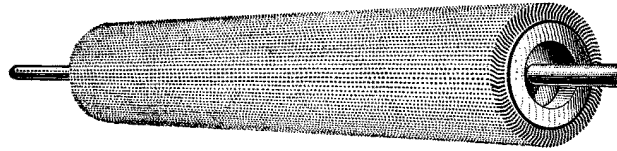

FIG. 15. STRIPPING ROLL
51. A stripping roll, as shown in Fig. 15, is slightly longer than the width of the card. Steel shafts project from both ends to support the roll, which is driven by a grooved pulley keyed to one of the shafts. The stripping roll is covered with card clothing similar to that used on the card cylinder, except that it has much longer teeth and they are not set so close together. Brackets bolted to the framework of the card act as bearings. One set of brackets support the stripping roll in such a position that the wire on it comes in contact with the wire of the card clothing. Another set holds it in contact with the doffer.